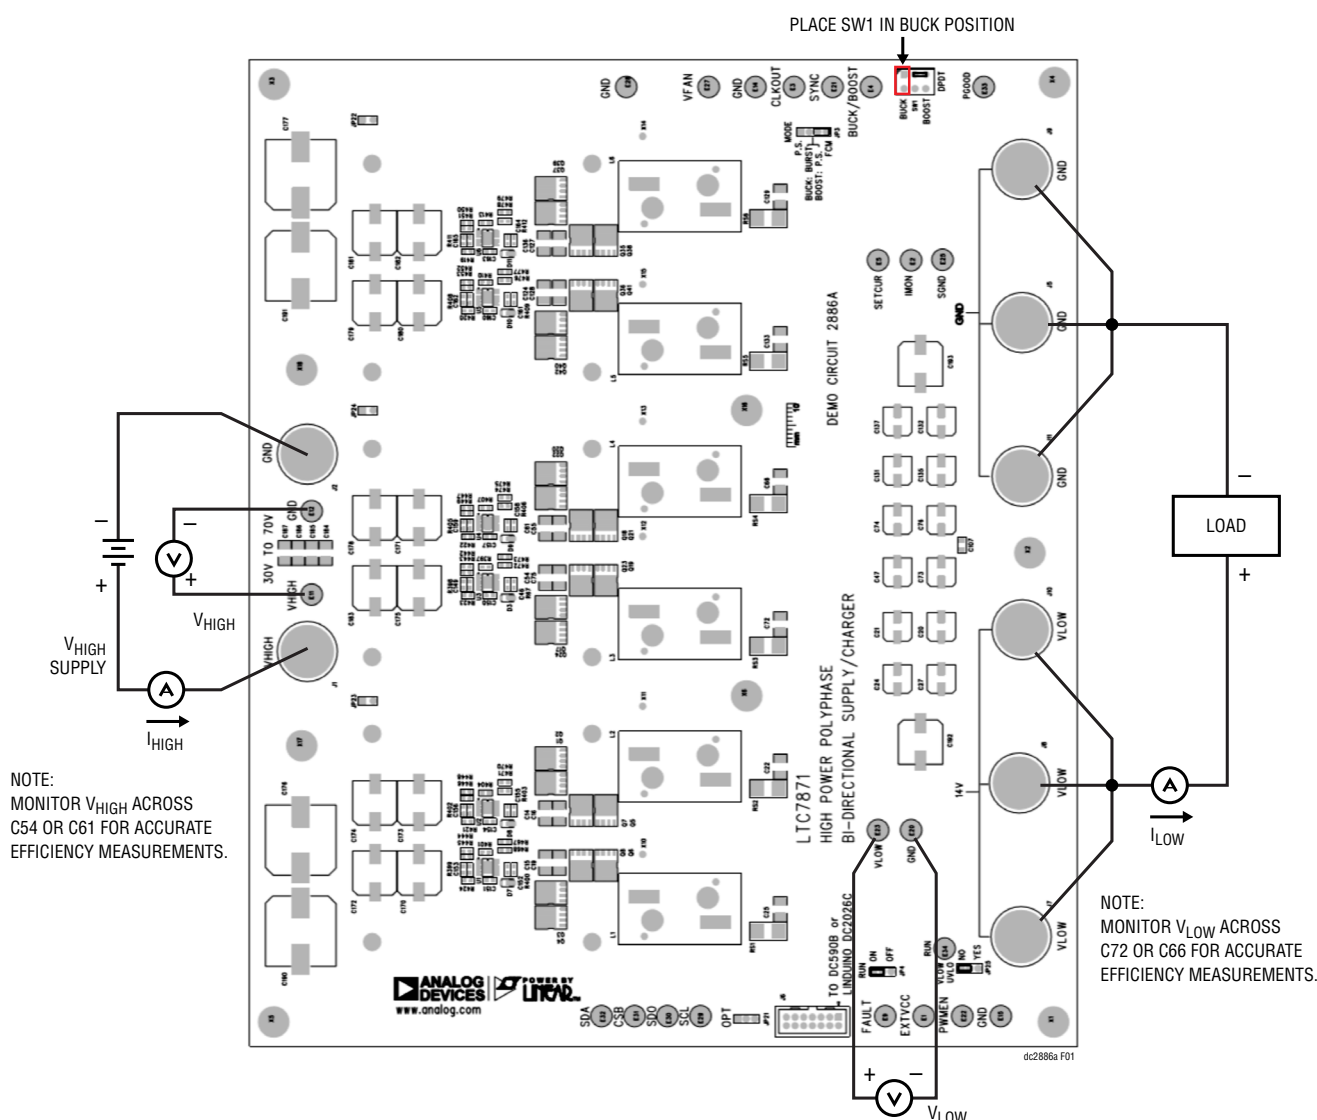
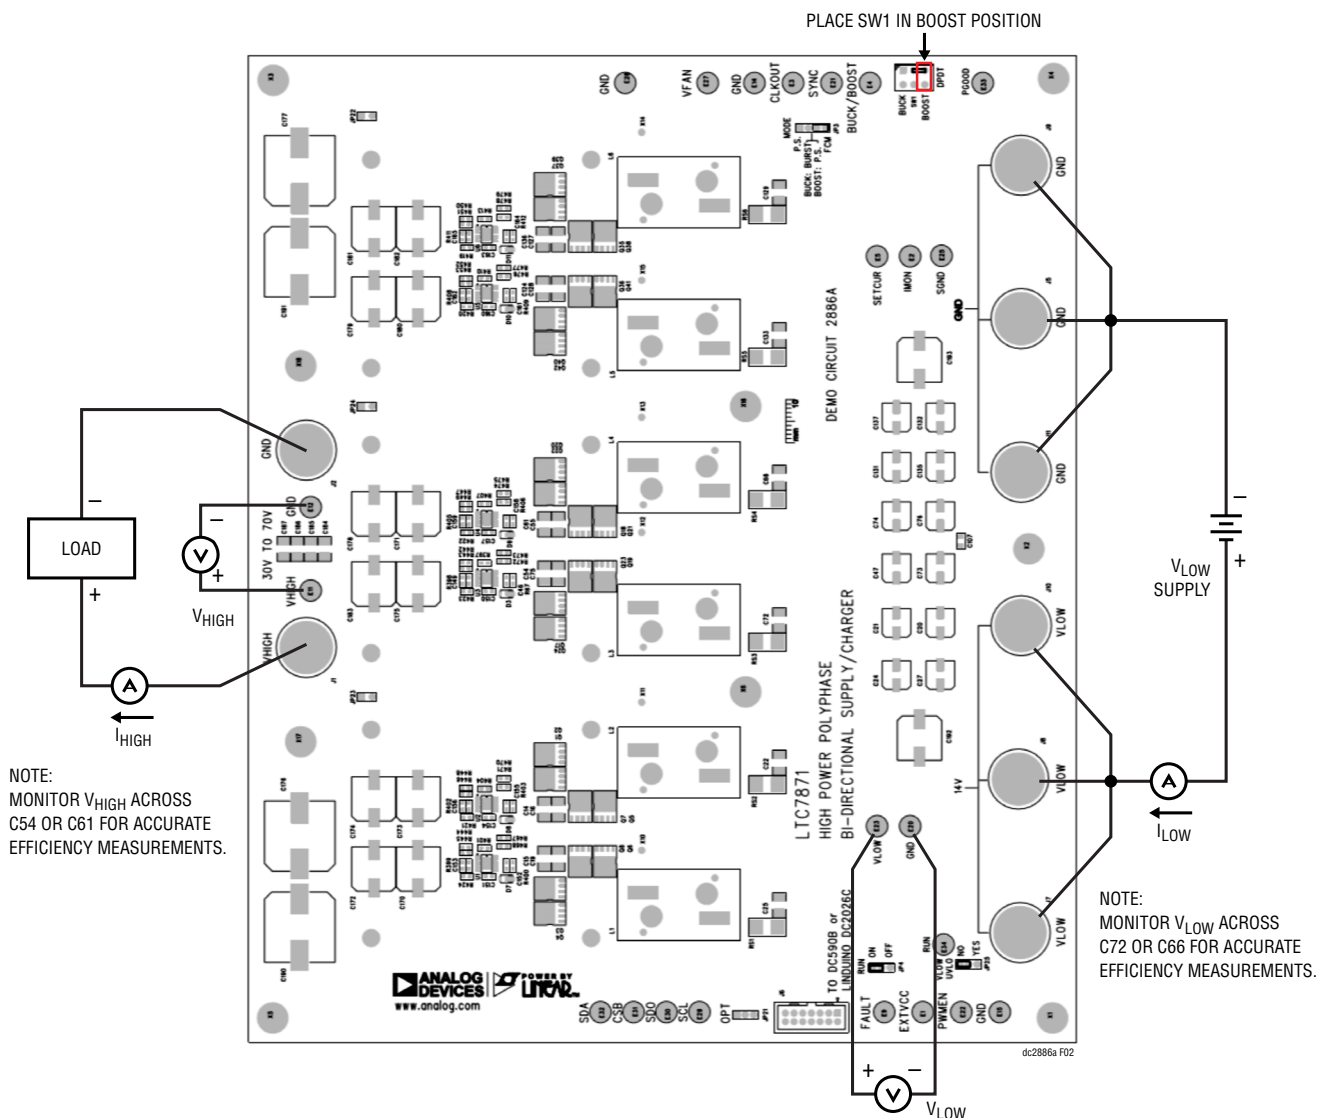

Figure 1. Proper Measurement Equipment Setup for BUCK Mode
Figure 2. Proper Measurement Equipment Setup for BOOST Mode
1. Refer to the connection diagram shown in Figure 1.
1. Refer to the connection diagram in Figure 2.
1. For buck operation, setup DC2886A as shown in Figure 1. For boost operation, setup DC2886A as shown in Figure 2. The load will need to have a constant-voltage mode.